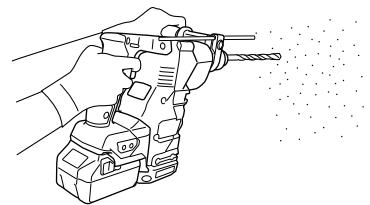

Fig. 22
- (1) Mount the drill bit.
- (2) Pull the trigger switch after applying the drill bit tip to the drilling position. (**Fig. 22**)
- (3) Pushing the rotary hammer forcibly is not necessary at all. Pushing slightly so that drill dust comes out gradually is just sufficient.
When the drill bit touches construction iron bar, the bit will stop immediately and the rotary hammer will react to revolve. Therefore please grip the side handle and handle tightly as shown in **Fig. 22**.